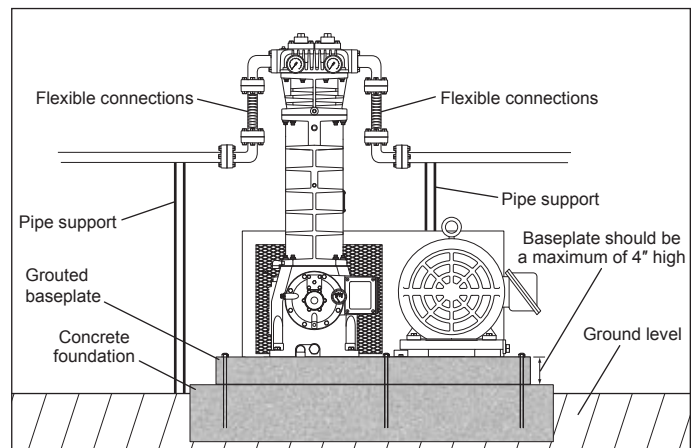

Figure 1.3: 103 mounting shown above.
**DO NOT SUPPORT PIPING WITH THE COMPRESSOR.** Unsupported piping is the most frequent cause of vibration of the pipe. The best method to minimize transmission of vibration from the compressor to the piping is to use flexible connectors (see figure 1.3 for details).